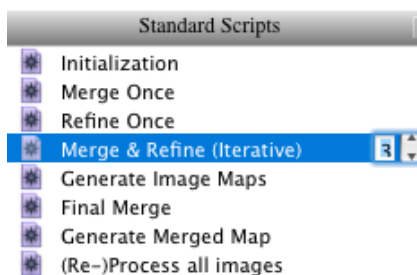

Figure 44: Changing the number of times the *Merge & Refine* script is run by double clicking the counter.
11. Until now we have always executed the merge and refine process separately. But when you are at the point where the images merged to a reference are the same set as the images being refined i.e. the selection does not change, you can also use the *Merge & Refine (Iterative)* script. As the name states this runs several iterations of the merge and refine cycle by default 3 rounds. The iteration number can be changed by clicking as illustrated in Figure 44.